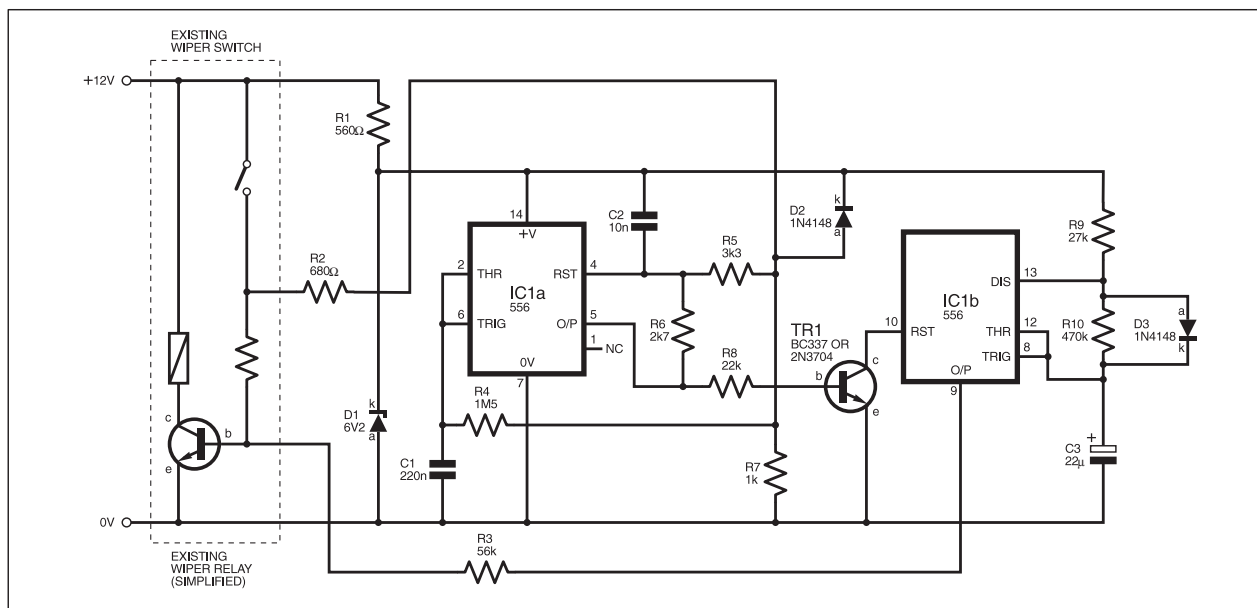

Fig.1. Circuit diagram for the Car Wash-Wipe Latch.
**F**OR cars which have only a simple rear wash-wipe control giving a single sweep of the wiper each time the switch is operated, the latching circuit of Fig. 1 will additionally provide a sweep automatically every few seconds, for use in continuous spray conditions. No extra switches are needed and the normal single-sweep operation can still be used at any time.
In the circuit diagram of Fig.1, IC1a is one half of a 556 dual timer, with the reset terminal (pin 4) connected unusually to the output (pin 5) via resistor R6 to form a latch. This can be set or reset depending on the duration of the wiper switch closure. When power is first applied (probably by switching on the car ignition), capacitor C2 briefly pulls the reset terminal high which enables the timer.